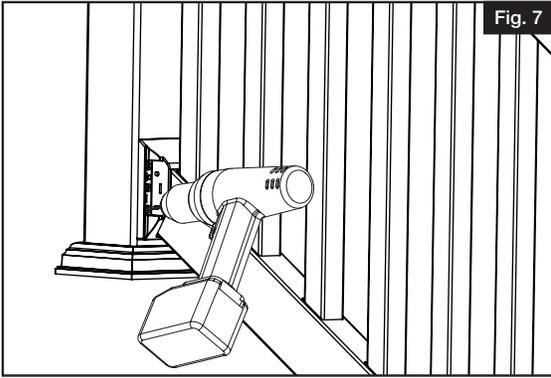

Fig. 7
- c. Ensure bracket is centered to post. Then, using $\frac{1}{8}$ " drill bit, pre-drill first bottom bracket screw hole through bracket hole and post (use the four outside corner holes) (Fig. 7).